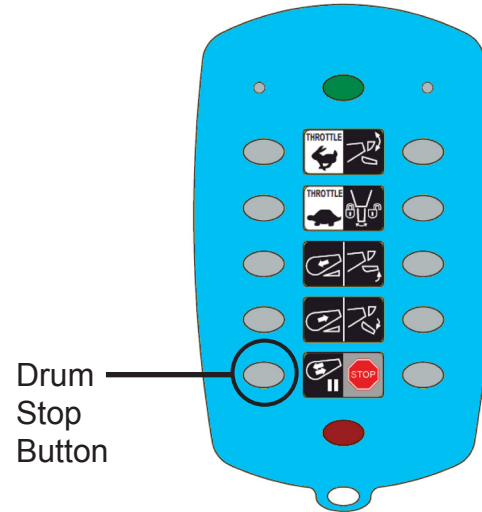

Figure 34
- To turn OFF Drum Stop Indicator on the Wireless Transmitter, push the drum start/stop button as required (Figure 34).